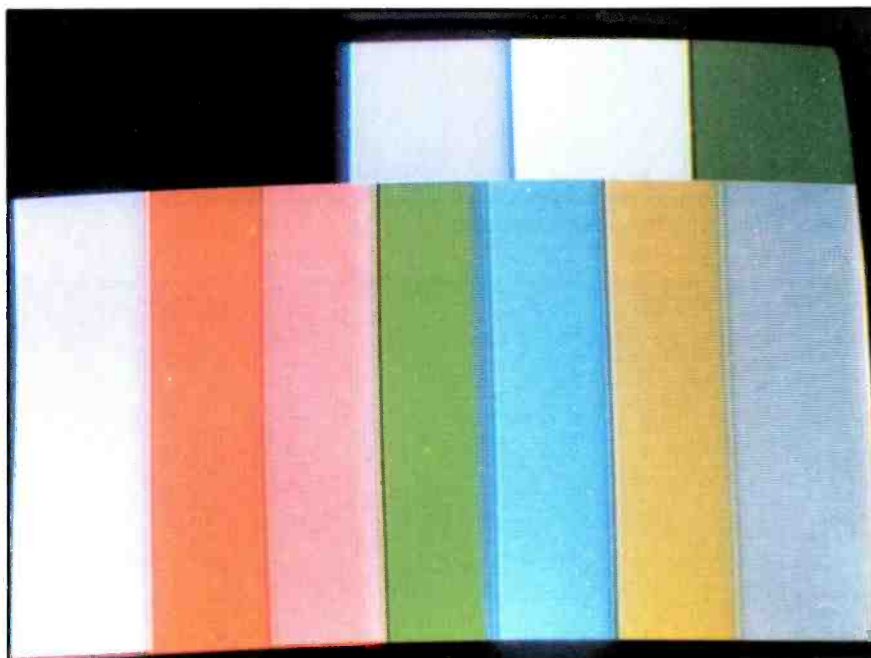

Figure 1. Pseudo NTSC broadcast pattern
There is no doubt that the circuit boards of the future will have surface-mounted components. They are usually called *chips* or chip-mounted components. There are many advantages to this method of fabrication, but there are also a few disadvantages. Figure 1 compares the surface-mounted component with one that is mounted with its leads through the board.
The components won't look the same as you can see in the example of Figure 1. The leads will be flat against the board instead of protruding through holes in the boards. You've already seen examples of this in dedicated microprocessors. To get one of them free from the board, you have to unsolder the leads one at a time and bend them away from the solder connection.
Because the Texas Instruments 99/4A (TI) computer can display 13 colors, as well as black, white and transparent, color bar displays can be generated including a pseudo NTSC (National Television Standards Committee) broadcast color pattern. This pattern also is commonly known as the Standard Electronic Industries Association (EIA) standard test pattern. The NTSC color bar pattern discussed here is a pseudo one, because there is no wideband orange-cyan *I*, in-phase signal or the narrowband magenta-green *Q*, quadrature signal. Figure 1 shows the pseudo NTSC pattern with the top 75% colors of gray, light yellow, cyan, medium green, magenta, dark red and light blue. The lower 25% colors are dark green, white, dark blue and two black sections.